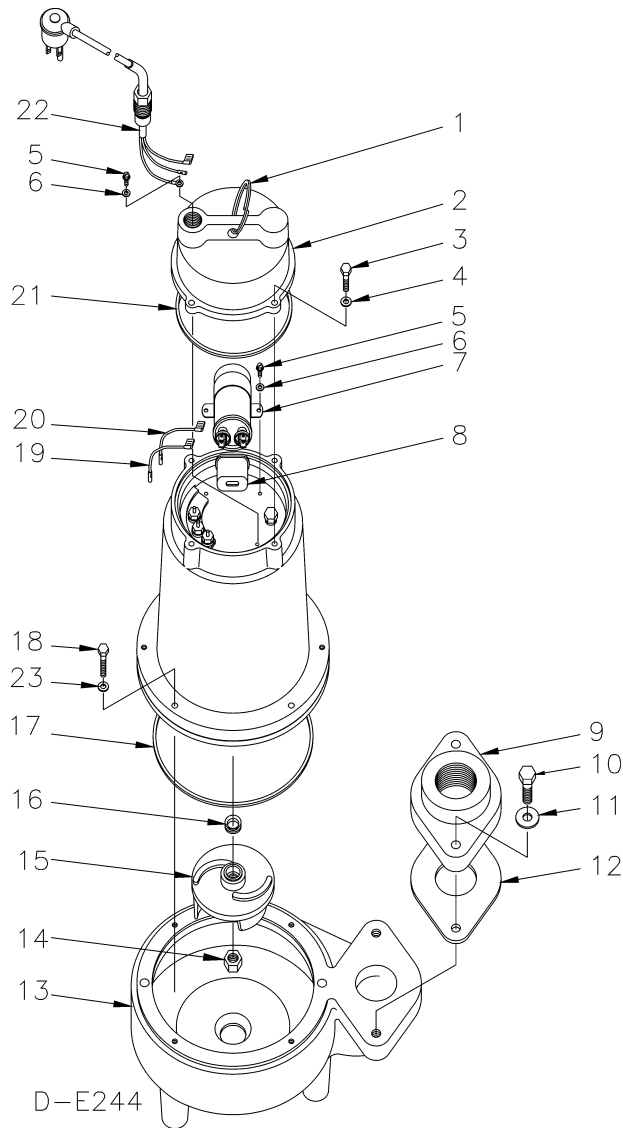

Figure 3
CAUTION: DO NOT remove the socket head cap screws (item #3, Figure 3). The motor section of your pump is permanently lubricated with dielectric oil and is sealed at the factory. Removal of these screws by anyone other than an authorized Little Giant service center will break the seal and void the warranty.
1. Remove the 4 screws (item #18, Figure 3) that hold the volute to the motor housing, then separate the volute from the housing